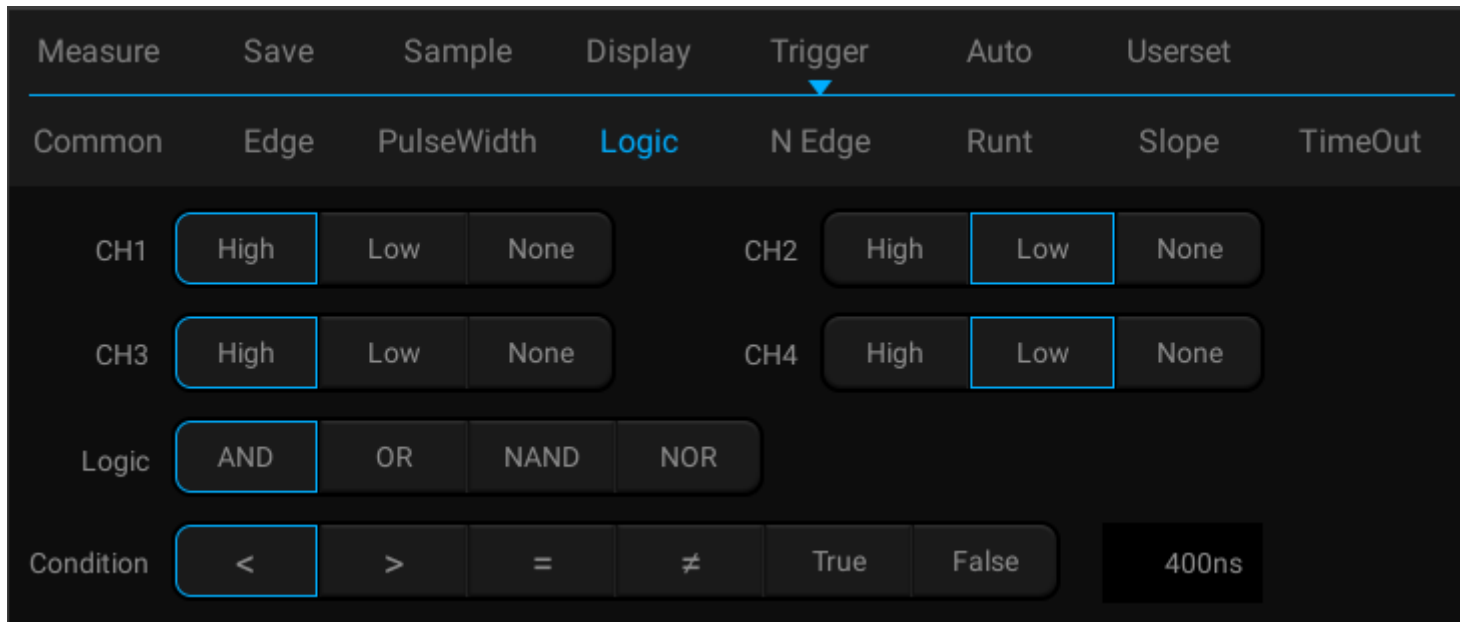

Figure 6-21 Logic Trigger Setting Menu
- 1) Tap “Trigger” on the main menu to open the trigger menu, select logic trigger in the trigger type, and set the logic trigger as follows, as shown in Figure 6-21: